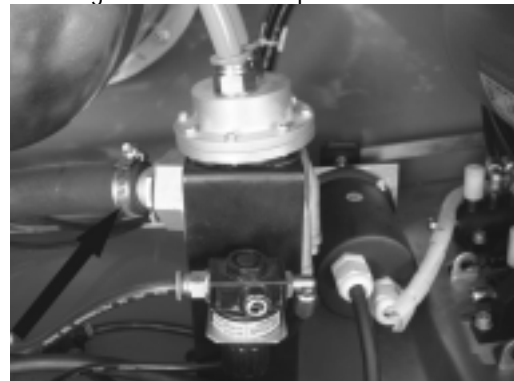

Fig.22
- For the tyre changer with fast inflation, take out rubber hose and connect it with deflating valve as fig.22, get the other end of hose out cabin through the hole on back plate.